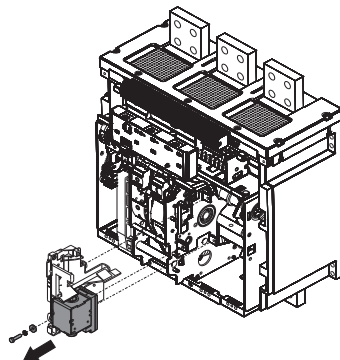

Fig. 21
- Clean the points indicated in figure 21. Use a cleaning product such as Henkel's 273471 or equivalent if there is a heavy coating of dirt.